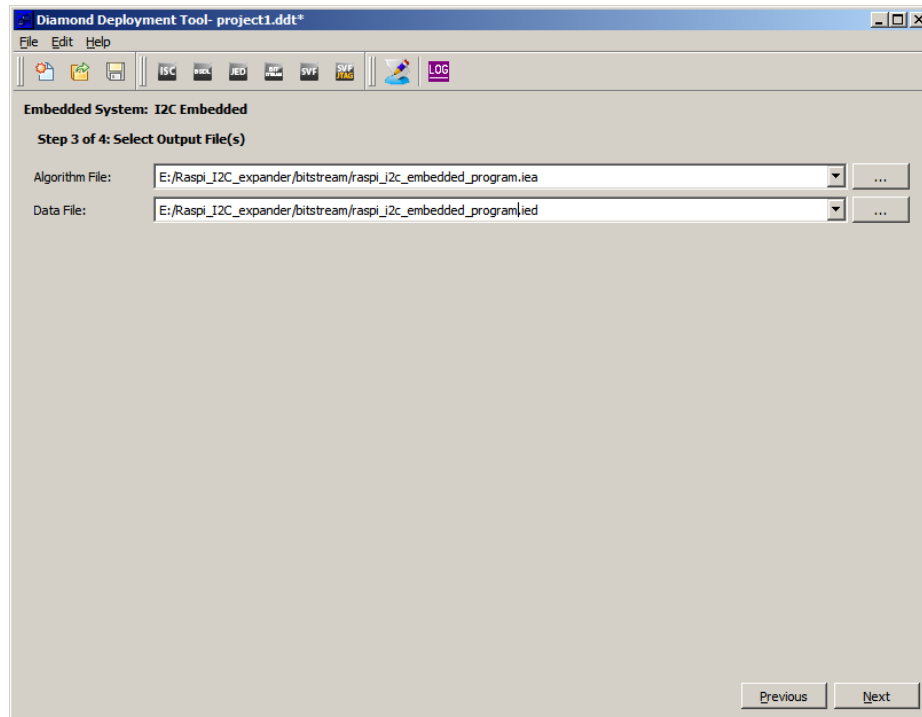

Figure 10.7. Specifying New Names for the Algorithm File and Data File
7. Give a new name respectively to the Algorithm File and Data File (Figure 10.7), for example, raspi\_I2C\_embedded\_program.iea and raspi\_I2C\_embedded\_program.ied. Click **Next** to continue.